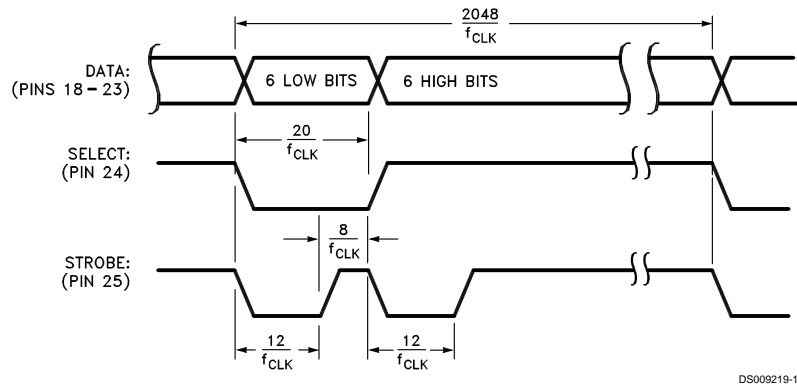

FIGURE 8. 12-Bit Multiplexed Output Timing
2. LM628 (12-bit output mode): Outputs two, multiplexed 6-bit words. The less-significant word is output first. The MSB is on Pin 18 and the LSB is on Pin 23. Pin 24 is used to demultiplex the words; Pin 24 is low for the less-significant word. The positive-going edge of the signal on Pin 25 is used to strobe the output data. Figure 8 shows the timing of the multiplexed signals.